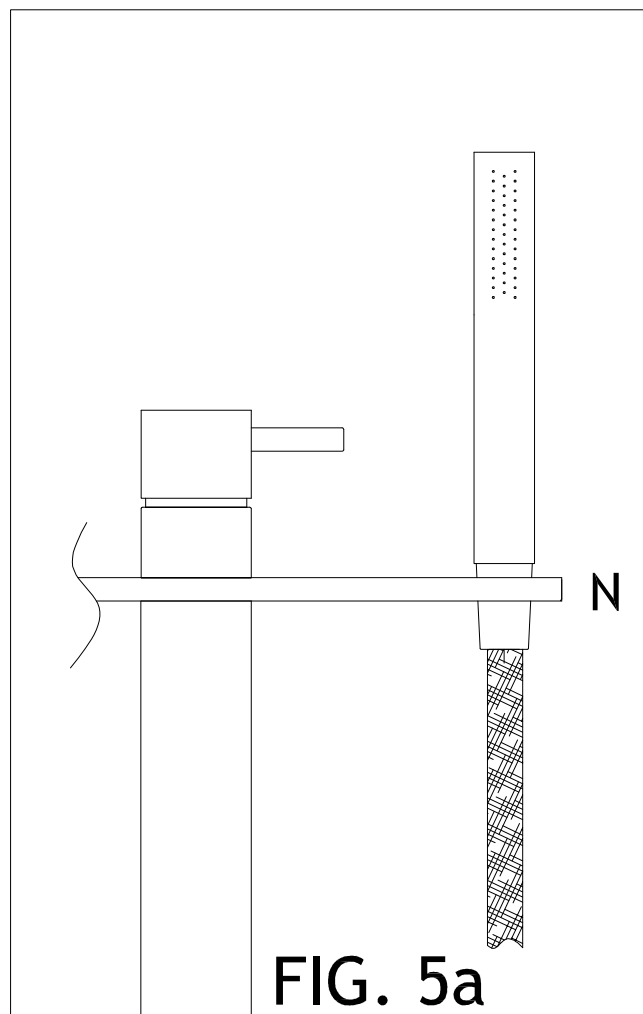

FIG. 5a
- Screw knurled nut (M) to flexible hose (I) taking care that gasket (L) is in position.
- Place hand shower on console (N) (FIG 5a).